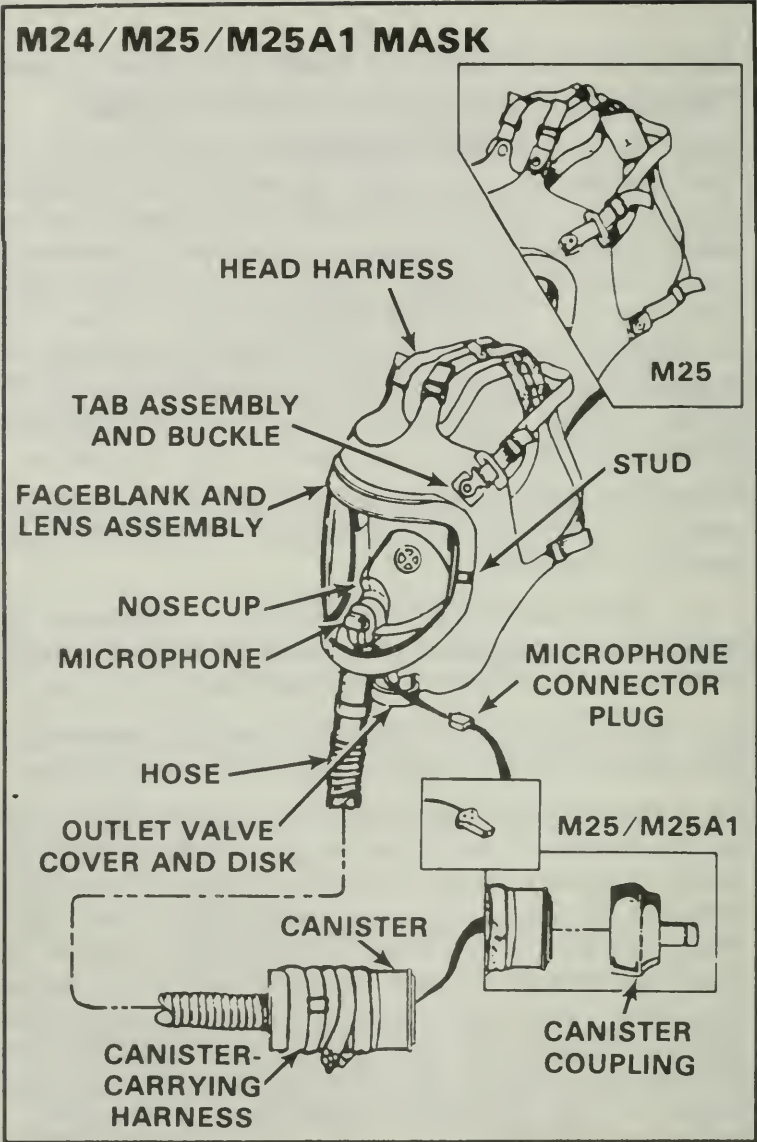

Figure 263. M24 or M25-Series mask.
1. Maintenance. Each soldier, under the supervision of qualified personnel, is required to care for and perform maintenance on his or her mask. Figure 263 shows the components of the M24 and M25-series protective